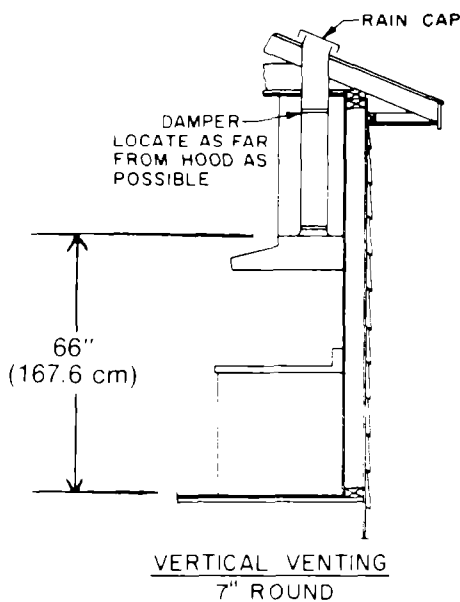

FIG. 3
1. For vented applications, see Figures 3, 4, and 5. Typical vented installations are shown for the 7" Round Vertical, 3 1/4 x 10 Vertical, and the 3 1/4 x 10 Horizontal Discharge respectively. Choose the best method for your installation.
8. Remove proper venting knockout. If 7" (17.8 cm) round vertical venting, entire top knockout including rectangular portion must be removed. The best performance from your hood, with most air taken from the kitchen and when the hood is most quiet, comes when you top vent with 7" round duct pipe as shown in Figure 3.
15. Be sure that damper which is supplied with this model is properly installed. (See Figures 3,4, & 5).